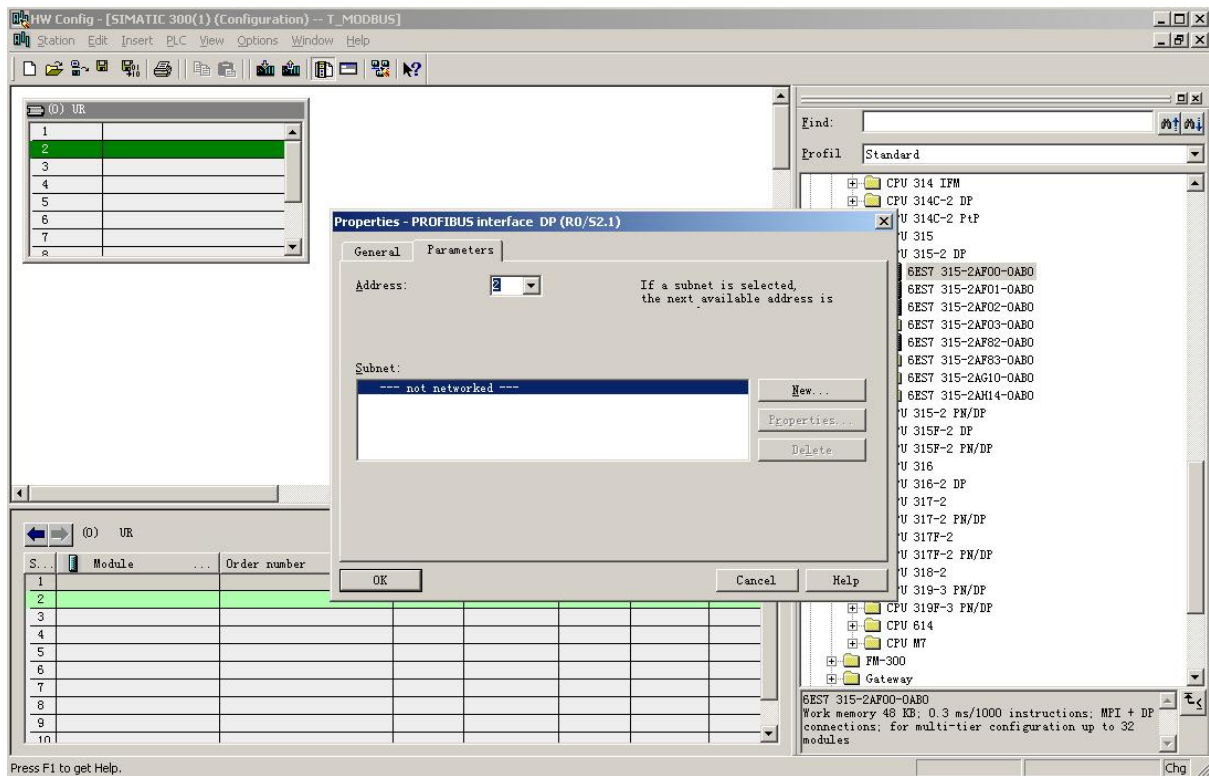

Figure 7
7. Set PLC rack, double click the “Hardware Catalog\SIMATIC 300\RACK-300\Rail”, as Figure 7 shown: